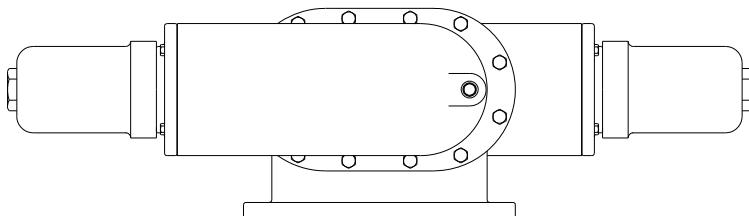

Figure 23: A double-action bypass valve.
5. It appears from the pump designation on the pump's name plate if the valve is supplied with a stainless or non-stainless spring – see above! Use figure 22 for non-stainless keys and figure 23 for stainless keys